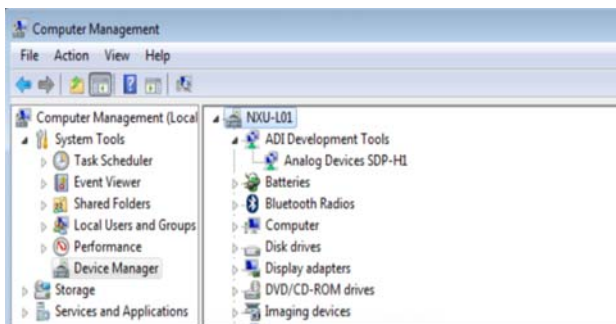

Figure 16. Device Manager
- If the board does not appear to be functioning, ensure that the ADC evaluation board is connected to the SDP board and that the SDP board is recognized in the **Device Manager**, as shown in Figure 16.
- If an error occurs, check that the evaluation board and the SDP board are connected together so that the evaluation board is recognized in the **Device Manager**, as shown in Figure 16.